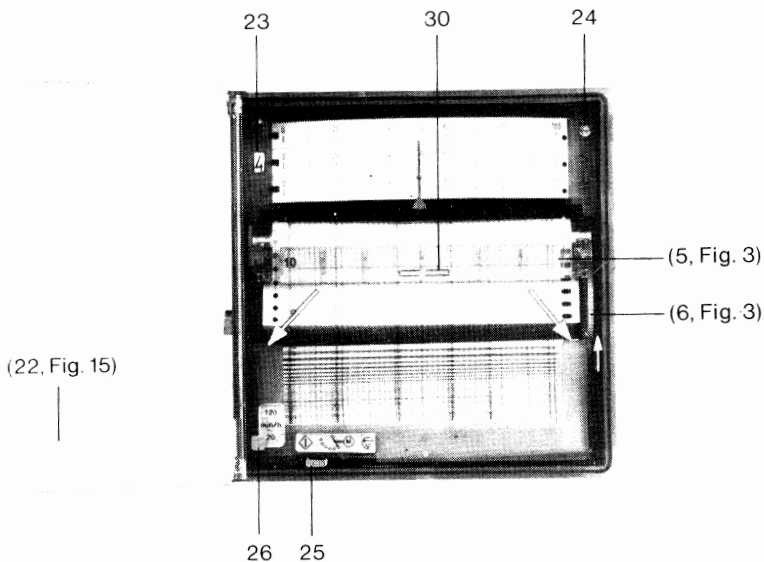

Fig. 16 Motorized Point Recorder with door opened
With the recorder door open, the chart table must be pressed downwards (against the spring pressure) at the points marked with arrows in Fig. 16. The chart table can then be withdrawn forwards.
If the recorder has stopped with the channel indicator (23, Fig. 16) not at channel 1 but, for example, at channel 3, the ink ribbon carrier with the identification number 3 (12, Fig. 4) must be placed in the magazine first. (Identification number must always face upwards.) All the other ink ribbon carriers must then be placed in the magazine in the correct sequence. In this case the sequence is 4, 5, 6, 1 and 2.
Open recorder door and select the required chart speed with the lever (26, Fig. 16) at the front of the recorder. Depending on version, a basic chart speed of 10, 20 or 60 mm/h is possible. This speed can be increased in the ratio 1:6. Chart speed selection can also be done whilst the recorder is running (→ section 2.5.1.).
Using the single channel monitoring lever (25, Fig. 16) stop channel selection at the input channel required as described in section 2.5.1.
- b) The channel being recorded is displayed at the front of the recorder (23, Fig. 16).